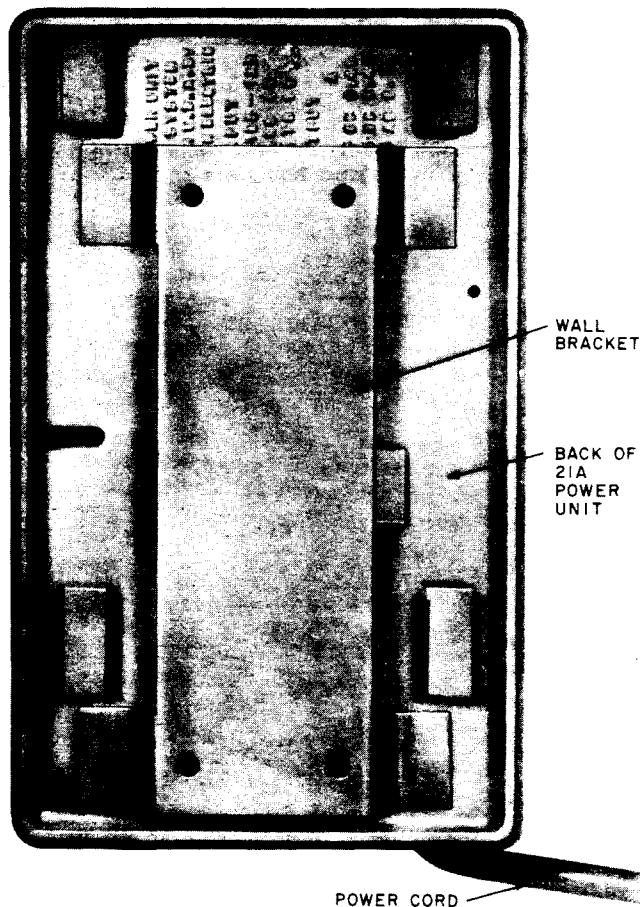

Fig. 5—Rear of 21A Power Unit
3.02 A bracket is supplied with the 21A power unit for wall mounting. The unit must be mounted in a vertical position (power cord down). *Try the bracket on the power unit, before mounting, to determine the top of bracket Fig. 5.*